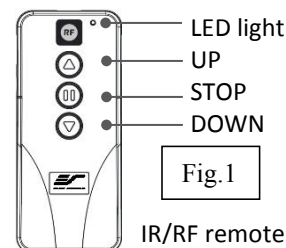

Fig.1
1. IR Remote control (Item A, Fig 1): The Infrared functions by direct line of sight contact using an effective beam range of 25 feet within a 30-degree angle. Aim the IR remote directly at either the IR receiver on the Wall Box Controller or on the screen to operate the screen.